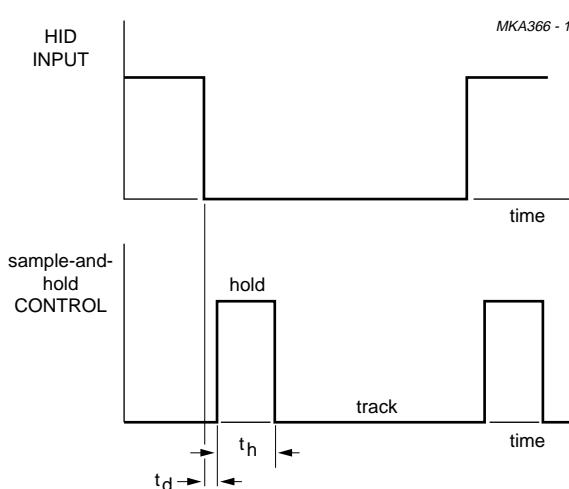

Fig.10 Sample-and-hold timing waveforms.
**Sample-and-hold (see Fig.10)**